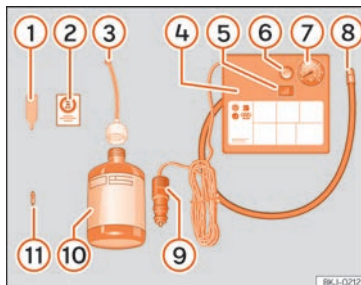

Fig. 34 Standard representation: anti-puncture kit contents.
»» **Fig. 34:**
- Unscrew the tyre valve cap and insert. Use the »» **Fig. 34** ① tool to remove the insert. Place it on a clean surface.
»» **Fig. 34** ⑩.
- Screw the inflator tube »» **Fig. 34** ③ into the sealant bottle. The bottle's seal will break automatically.
»» **Fig. 34 ③** and screw the open end of the tube into the tyre valve.
- Place the insert back into the tyre valve using the tool »» **Fig. 34 ①**.
»» **Fig. 34 ⑧** into the tyre valve.
»» **Fig. 34 ⑥**.
- Insert the connector »» **Fig. 34 ⑨** into the vehicle's 12-volt socket »» **page 150**.
- Turn the air compressor on with the ON/OFF switch »» **Fig. 34 ⑤**.
- Attach the sticker »» **Fig. 34 ②** to the instrument cluster, within the driver's visual field.
Screw the inflator tube »» **Fig. 34 ⑤** again and check the pressure on the gauge **⑥**.